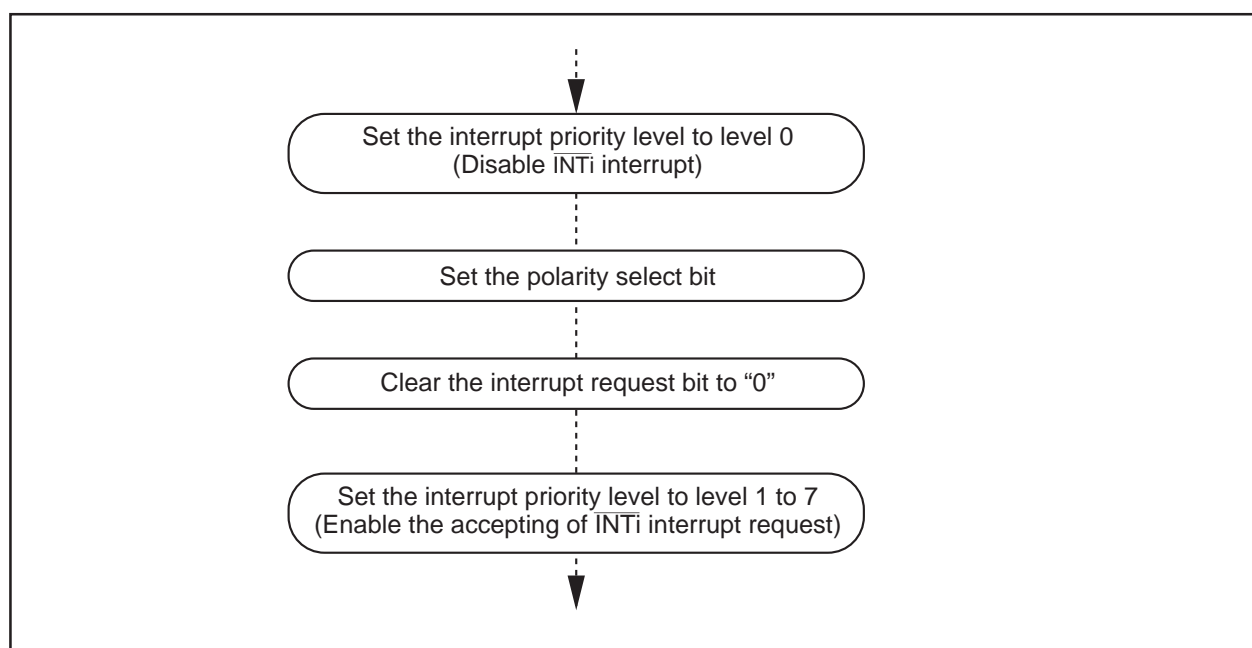

Figure 4.7.1. Switching condition of INT interrupt request
(3) The $\overline{\text{NMI}}$ interrupt
(4) External interrupt
- When the polarity of the INT0 to INT2 pins is changed, the interrupt request bit is sometimes set to "1". After changing the polarity, set the interrupt request bit to "0". Figure 4.7.1 shows the procedure for changing the $\overline{\text{INT}}$ interrupt generate factor.